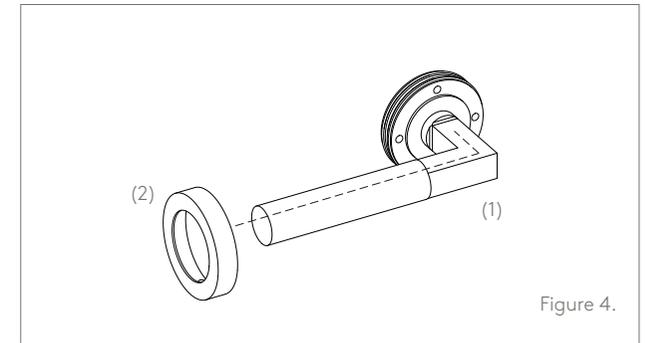

Figure 4.
- 4.2. Unscrew the outer roses from the door lever set (for square rose hardware loosen grub screw and remove) and install the halves on either side of the door, ensuring the levers function in the correct direction. (Figure 4.)